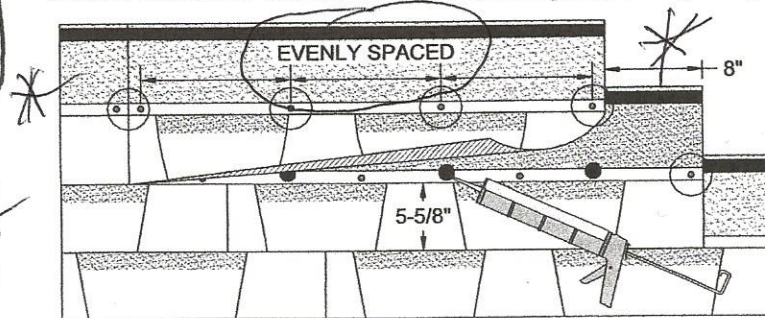

Figure 7 - Hand-Sealing Laminate Shingles
To hand-seal a shingle, apply four (4) quarter-size dabs of asphalt roof cement conforming to ASTM D4586 evenly spaced under each shingle, and press shingles firmly into the cement. Excessive use may cause blistering; correct amount should not bleed out from under the shingle. (See Figure 7)